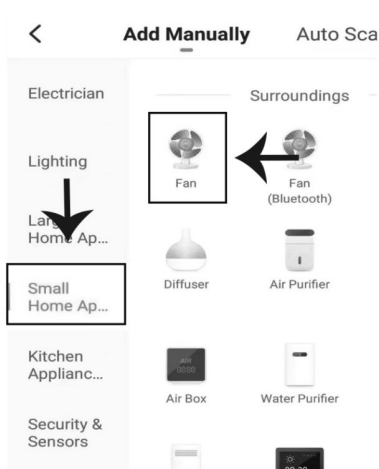

Fig 5
1. Unscrew the spinner clockwise and the plastic nut counter-clockwise to remove both of them. Fix the rear grill so it sits perfectly flush to the motor then tighten the plastic nut clockwise. (See Fig. 5)
Step 7: To select the device, tap on Small Home Appliances, and then choose “Fan” to start Pairing process of the device to the app (Figure 5).